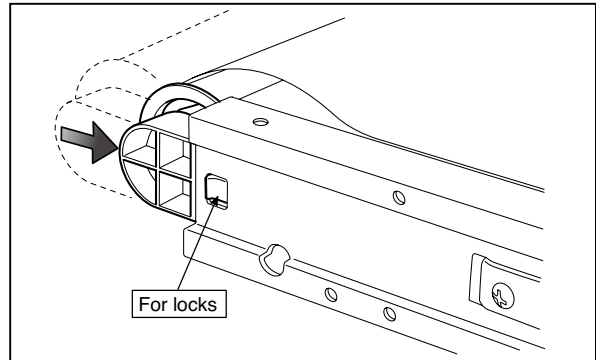

Fig.33
4. Push the Tension Roller Base block shown in the figure 33 into the inside and fix the Tension Roller Bases.